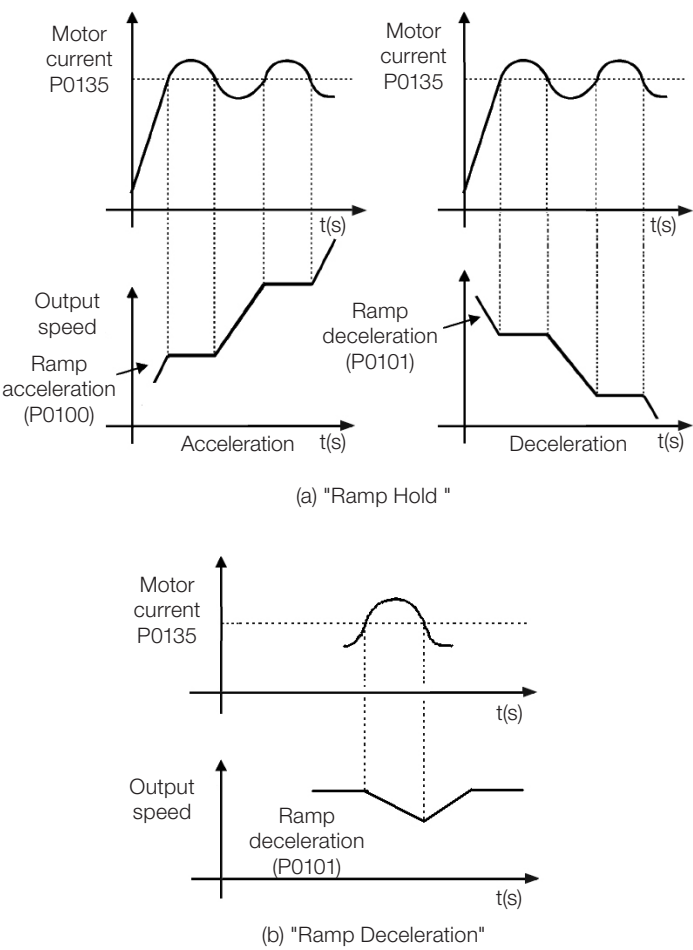

Figure 11.6: (a) and (b) Actuation modes of current limitation via P0135
- Actuation: if the motor current exceeds the value set in P0135 during acceleration or deceleration, the speed will not be incremented (acceleration) or decremented (deceleration). When the motor current reaches a value below P0135, the motor accelerates or decelerates again. Refer to Figure 11.6: \(a\) and \(b\) Actuation modes of current limitation via P0135 on page 11-8.
- Actuation: if the motor current exceeds the value set in P0135, a null value is forced for the speed ramp input forcing the motor deceleration. When the motor current reaches a value below P0135, the motor accelerates again. Look at Figure 11.6: \(a\) and \(b\) Actuation modes of current limitation via P0135 on page 11-8.
Current level to activate the current limitation for the ramp hold and decelerate ramp modes, as per Figure 11.6: \(a\) and \(b\) Actuation modes of current limitation via P0135 on page 11-8, respectively.